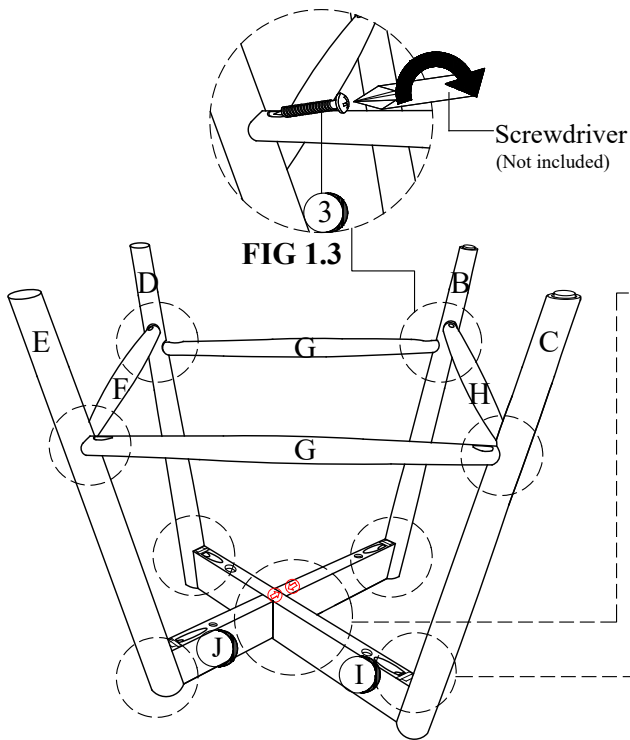

FIG 1.3
**Step 1.3** Secure all Stretchers (F,G,H) to Legs, using Wooden screw (3), tighten them with Screwdriver as shown on FIG 1.3